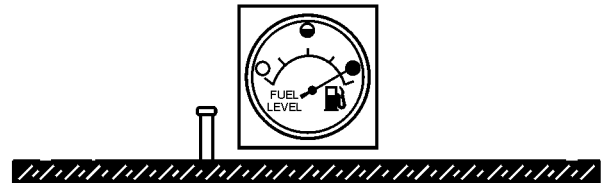

Figure 35. Full Fuel Tank
3. **NEVER overfill fuel tank** — It is important to read the fuel gauge when filling trailer fuel tank. **DO NOT** wait for fuel to rise in filler neck (Figure 35).